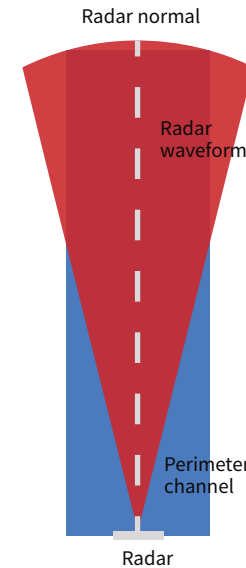

Fig.2-7
③ Scene 1: Scene of the perimeter of the channel, like figure 2-7.